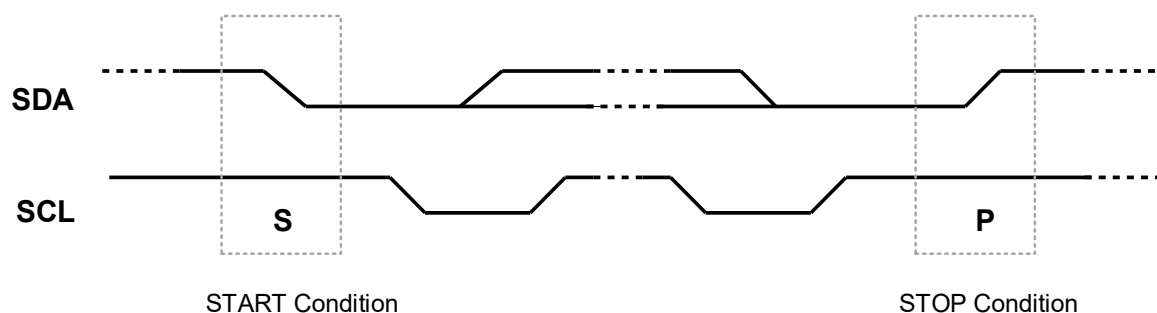

Figure 8. I2C START and STOP Conditions
A data transfer is initiated by a START condition (S) and is defined as a high to low transition on the SDA line while SCL is high. A STOP condition (P) is defined as a low to high transition on the SDA line while SCL is high as shown in Figure 8.